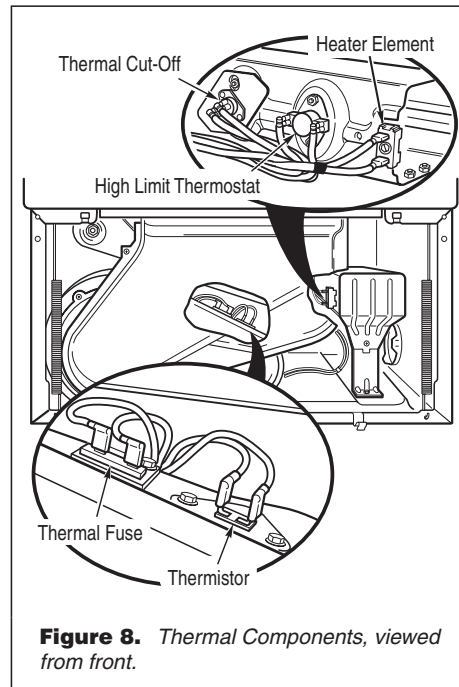

Figure 8. Thermal Components, viewed from front.
2. Remove the toe panel to access the thermal components. See figure 11, page 7. Locate the components using figure 8.
- Check wire connections at the machine control electronics and thermistor. See Accessing & Removing the Electronic Assemblies, page 7, and figure 8 for the thermistor location.
- If wire connections are good, remove the two wires from the thermistor and replace the thermistor. See figure 8.
2. Access the thermal fuse by first removing the toe panel. See Removing the Toe Panel, page 7; and figure 8, page 4 for thermal fuse location.
3. Using an ohmmeter, check the continuity across the thermal cut-off. See figure 8, page 4, for location.